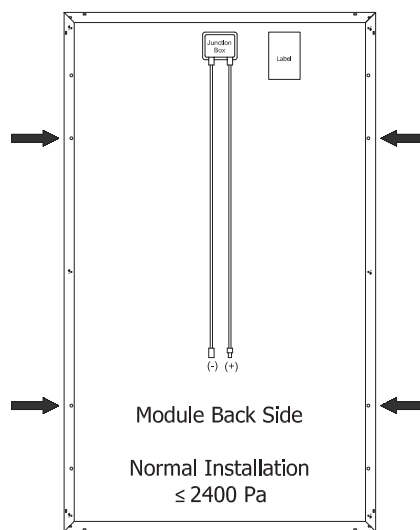
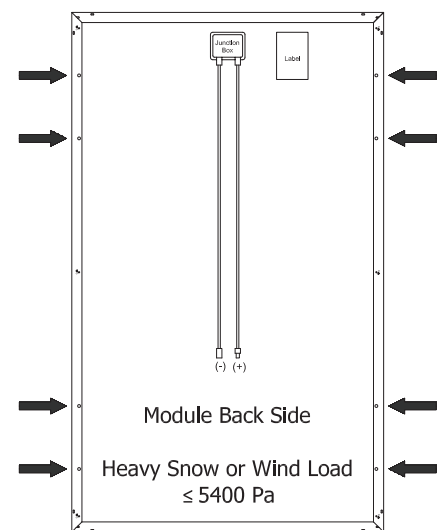

Fig 1.2
Fig 1.3
- For normal installation, modules must be securely attached to the mounting structure using at least 4 symmetrical mounting holes as shown in Figure 1.2 for normal installation. If additional wind or snow loads are anticipated for this installation (≤ 5400 Pa), additional mounting holes are also used as shown in Figure 1.3.